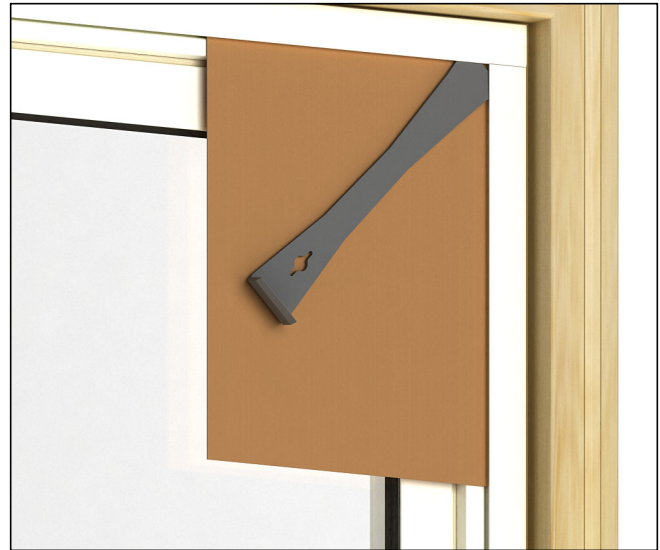

Figure 8
2. Use a pry bar at the interior of the frame expander opening and pry away from unit. Use a protective barrier between the pry bar and unit to protect from denting or damaging frame expander and/or unit. See figure 8. Release one piece of frame expander at a time by working the pry bar along the full length of each piece to release it from the frame kerf.